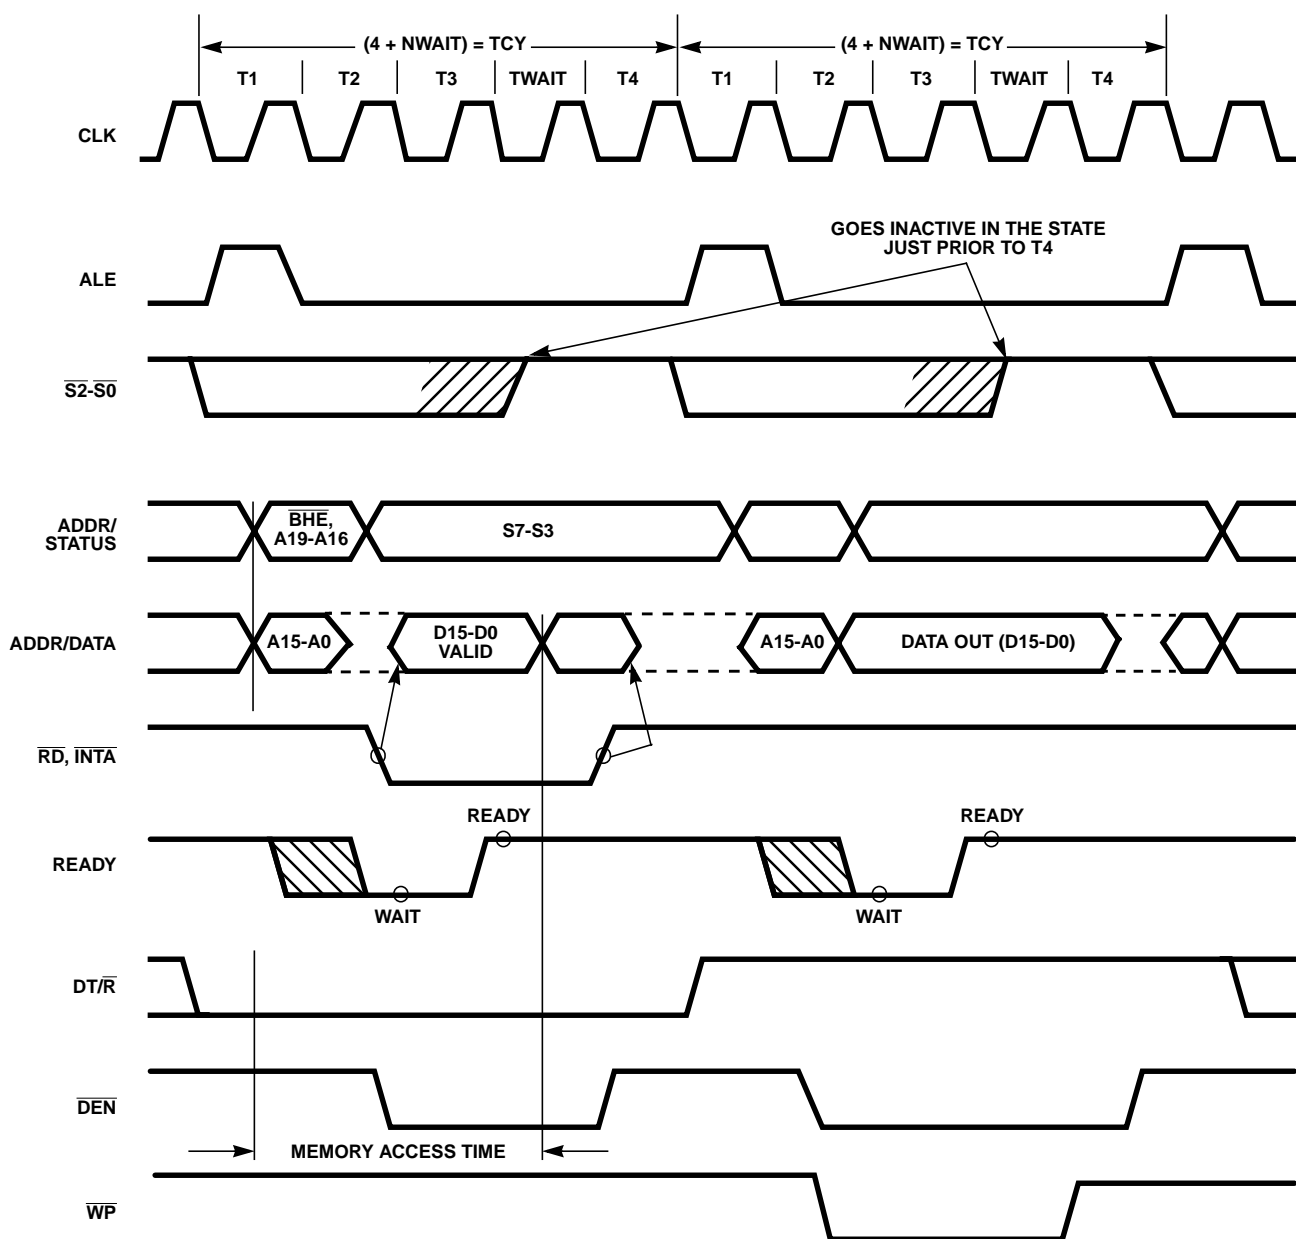
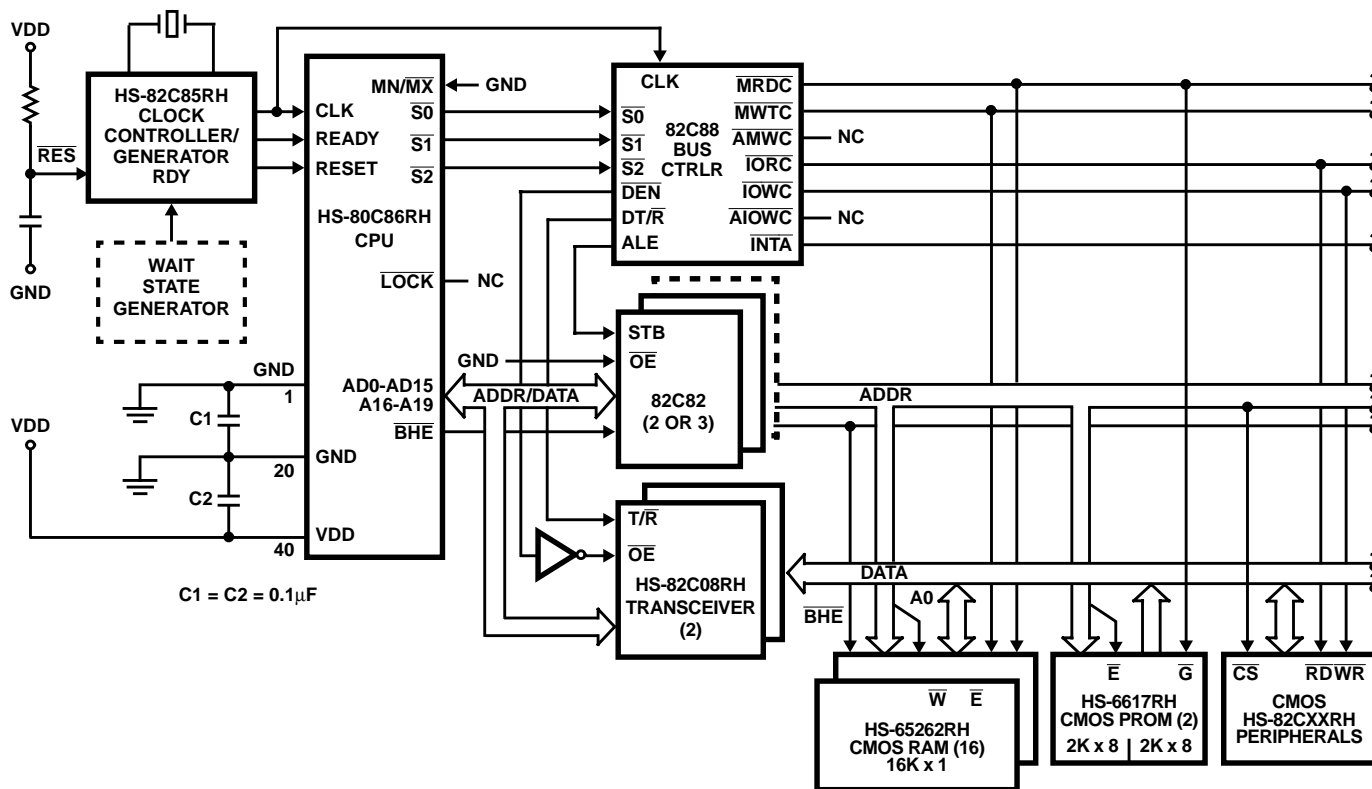

FIGURE 11. BASIC SYSTEM TIMING
FIGURE 14A. MAXIMUM MODE HS-80C86RH TYPICAL CONFIGURATION
Each processor bus cycle consists of at least four CLK cycles. These are referred to as T1, T2, T3 and T4 (see Figure 11). The address is emitted from the processor during T1 and data transfer occurs on the bus during T3 and T4. T2 is used primarily for changing the direction of the bus during read operations. In the event that a "NOT READY" indication is given by the addressed device, "Wait" states (TW) are inserted between T3 and T4. Each inserted wait state is the same duration as a CLK cycle. Idle periods occur between HS-80C86RH driven bus cycles whenever the processor performs internal processing.
Typical system configurations for the processor operating in minimum mode and in maximum mode are shown in Figures 14A and 14B, respectively. In minimum mode, the MN/ $\overline{MX}$  pin is strapped to VDD and the processor emits bus control signals (e.g.  $\overline{RD}$ ,  $\overline{WR}$ , etc.) directly. In maximum mode, the MN/ $\overline{MX}$  pin is strapped to GND and the processor emits coded status information which the 82C88 bus controller used to generate Multibus™ compatible bus control signals. Figure 11 shows the signal timing relationships.